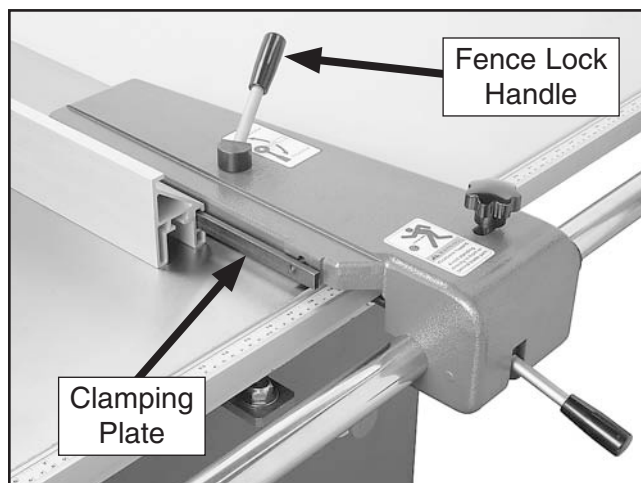

Figure 31. Installing the rip fence.
14. Slide the aluminum rip fence onto the clamping plate as shown in **Figure 31**, and lock it with the fence lock handle.